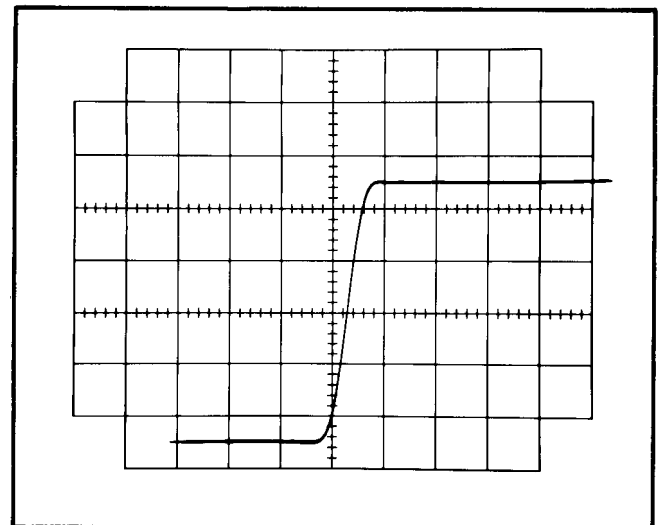

Fig. 5-14. Correct positioning of Lower Beam waveform for risetime check.
point on the rising portion crosses the intersection of the 1-cm horizontal graticule line and the graticule center vertical line. See Fig. 5-14 for correct display positioning.
- f. Check—Risetime of the 10% to 90% portion of the rising portion should be 6.93 nanoseconds or less with the test load unit pulse risetime of 3 nanoseconds. Fig. 5-14 shows a typical display.